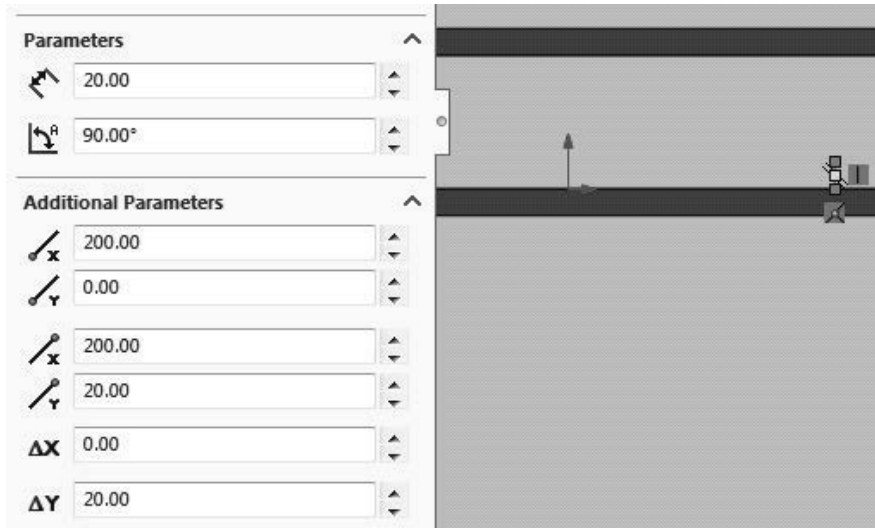

Figure 2.6 Parameters for vertical line
6. Draw a vertical line in the positive Y-direction in the front plane starting at the lower inner surface of the sketch. Set the **Parameters** and **Additional Parameters** to the values shown in figure 2.6. Close the **Line Properties** dialog ☒ and the **Insert Line** dialog.